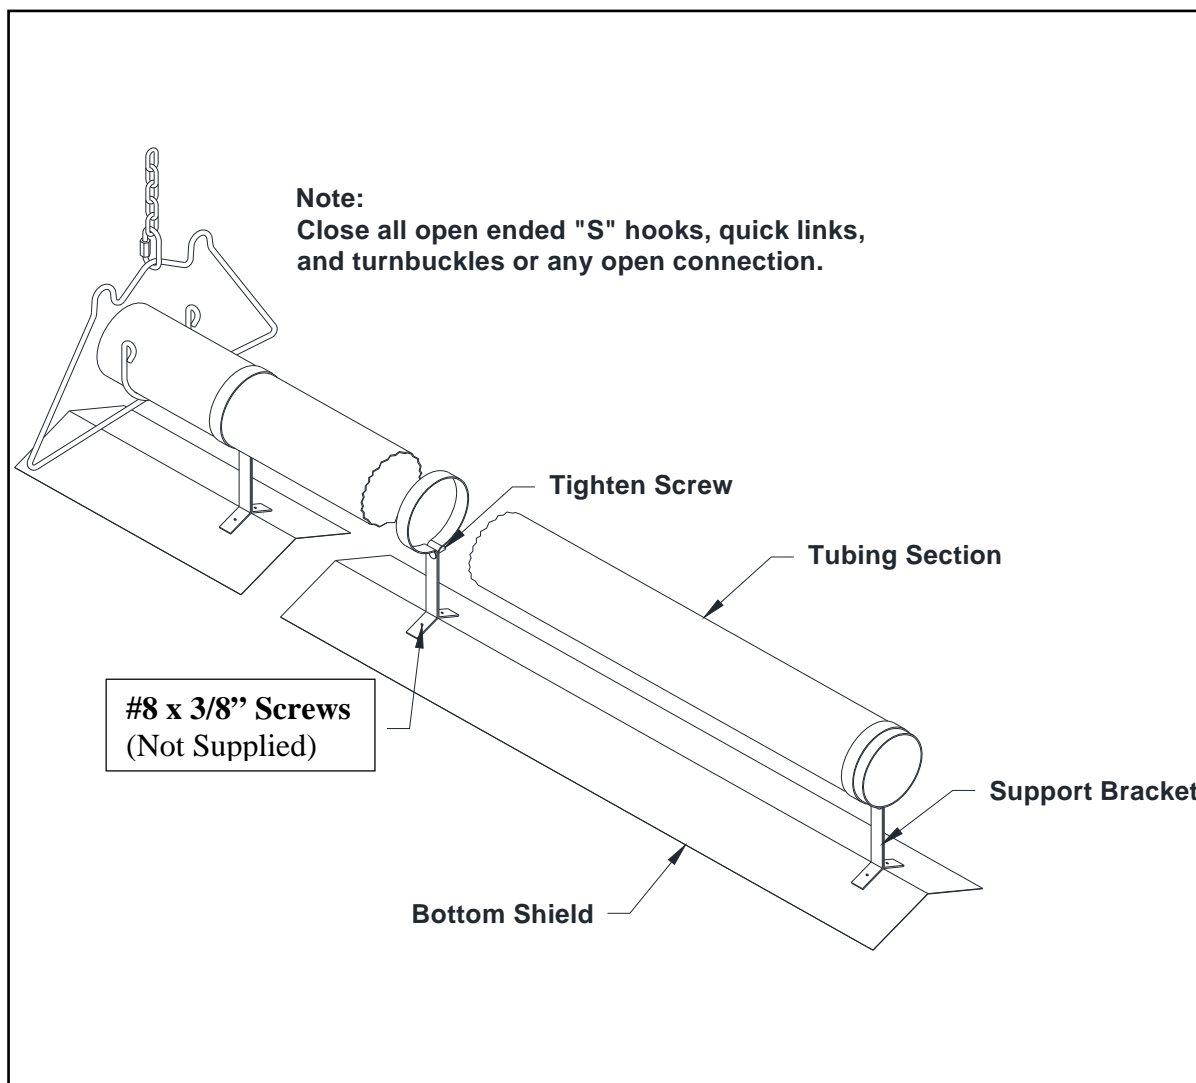
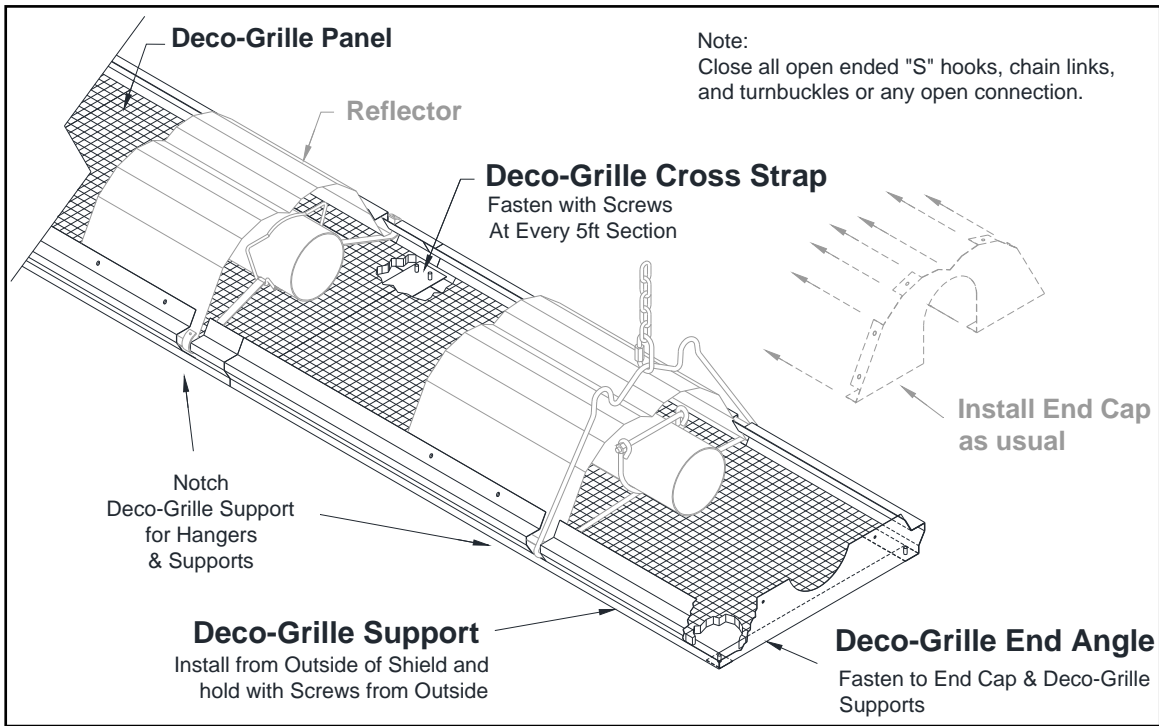

**Figure 19: Side Shield Overlap**
**Figure 20: Bottom Shield Installation**
- If used, install side shields (reflectors) and/or bottom shield as required. Refer to **Figure 19** and **Figure 20** for details.
- Side shields are 124" (315cm) long. Fasten one side shield per reflector with #8 x 3/8" screws. Use three side shield brackets per side shield. Space about 48" (122cm) apart, refer to **Figure 19**.
- Bottom shields need not overlap. Each 5' section is held with two support brackets (see **Figure 20**).